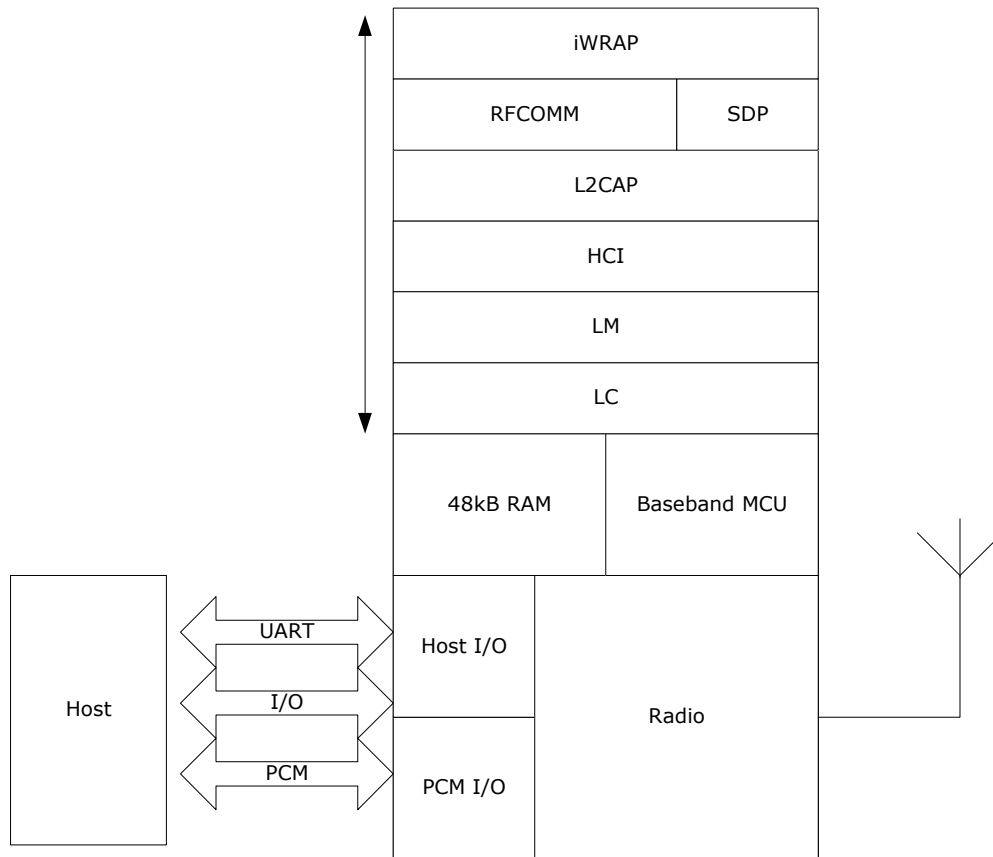

Figure 34: iWRAP Stack
In figure 34 above, the iWRAP software solution is described. In this version of the stack firmware shown, no host processor is required to run the Bluetooth protocol stack. All software layers, including application software, run on the internal RISC processor in a protected user software execution environment known as a Virtual Machine (VM).
The host processor interfaces to iWRAP software through one or more of the physical interfaces, which are also shown in the figure 34. The most common interfacing is done through the UART interface using the ASCII commands supported by the iWRAP software. With these ASCII commands, the user can access Bluetooth functionality without paying any attention to the complexity, which lies in the Bluetooth protocol stack.